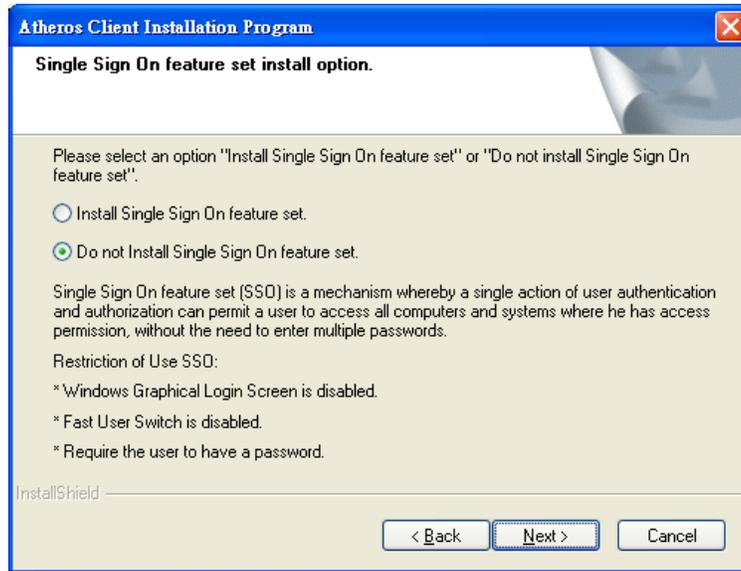

Figure 6-32: Single Sign On Feature Selection
Step 11: Choose whether to install the Single Sign On feature (Figure 6-32).